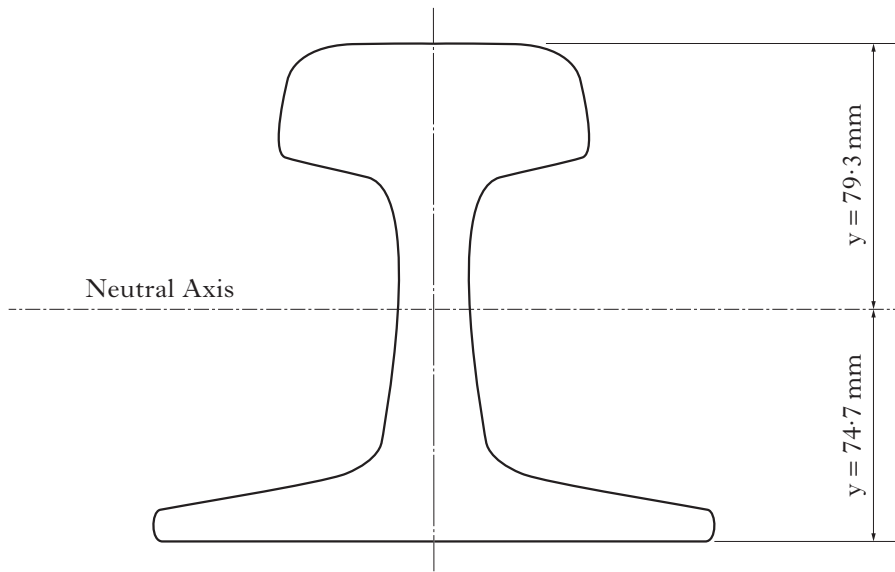

Figure Q2(a)
2. The cross-section of a rail is shown in Figure Q2(a). Details of the two “y” values about its neutral axis are also indicated.
- (a) State the reason for the two different “y” values shown in Figure Q2(a).